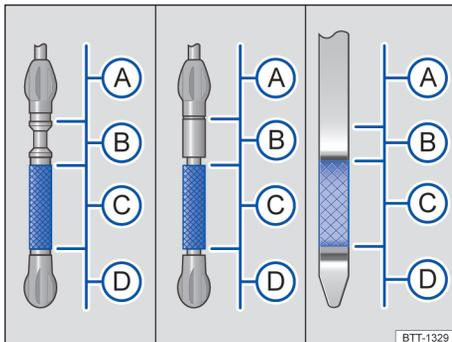

Fig. 170 Engine oil dipstick with oil level marks.
Key to fig. 170:
7. Remove the dipstick again and read the oil level on the dipstick → fig. 170 as described below:
13. After adding oil, the level must at least be in the center of the → fig. 170  range and can enter range , but should never enter range  → .
- Do not start the engine if the engine oil level is in range → fig. 170 . Contact an authorized Volkswagen dealer or an authorized Volkswagen Service Facility. Otherwise the catalytic converter and engine can be damaged!
The engine oil level should never be in range → fig. 170 . Otherwise oil can be drawn in by the crankcase ventilation system and enter the atmosphere via the exhaust system.